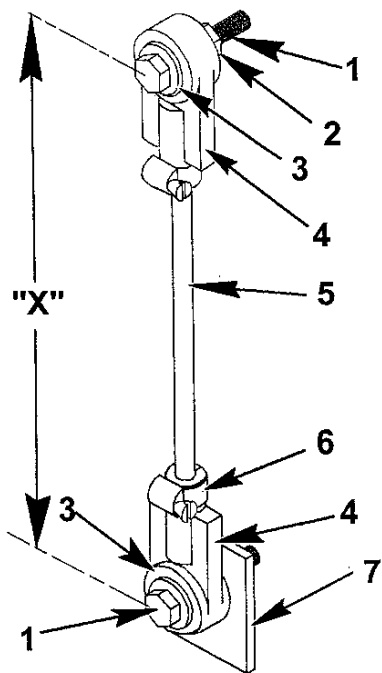

Figure 11 Height Control Rod
After the correct chassis ride height specification has been confirmed or adjusted, use a tape measure or steel rule and measure the center-to-center distance between the attachment hole in the ride height control valve actuating lever and the attachment hole in the lower linkage mounting bracket (Figure 11, Item "X"). This center-to-center dimension will be your "X" dimension.
7. Place one hose clamp on each rubber end as shown in (Figure 11, Item 6), and torque the clamps to 15 lbf-in.